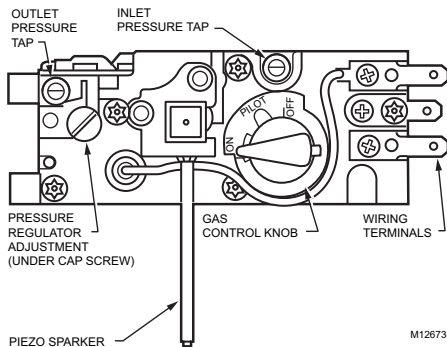

Fig. 5. Top view of gas valve with standard regulator.
2. With the main burner operating, check the gas valve flow rate using the meter clocking method or measure the pressure by attaching a plastic tube with a 1/4 in. shell ID to the manometer and connecting the manometer to the outlet pressure tap on the gas valve. See Fig. 5.